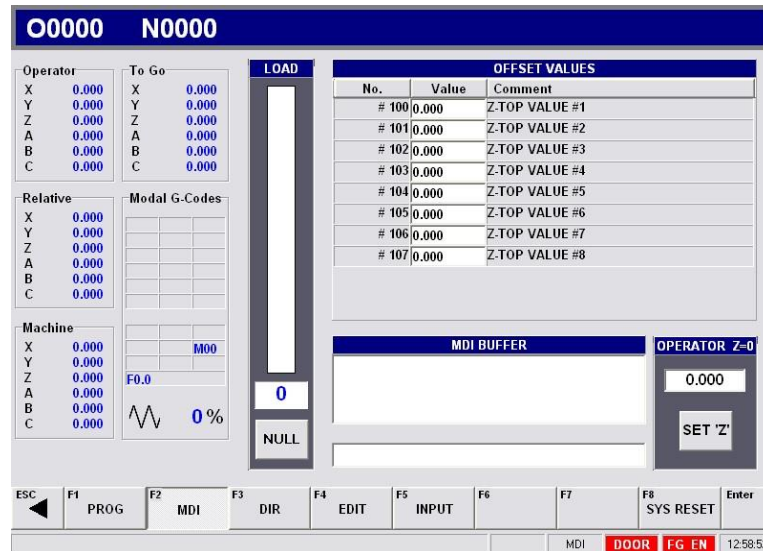

Figure 52 - MDI mode screen
2. Select the “MDI” tab button. *See Figure 52 - MDI mode screen.*